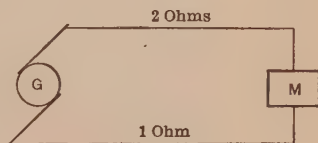

FIG. 80
**Prob. 67.** The generator, Fig. 80, delivers 6 kw. to the line. The motor uses 5.7 kw.